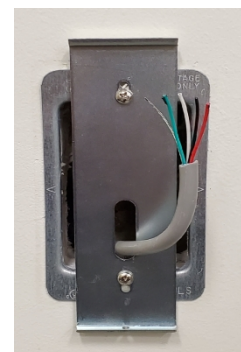

Figure 2
3. **Install Back Plate** – Feed the Access Control wiring through the Back Plate. Line up the Back Plate with a single gang junction box or flat surface. Have the cover screw hole located on the bottom of the plate and fasten with the provided screws. (Figure 2)